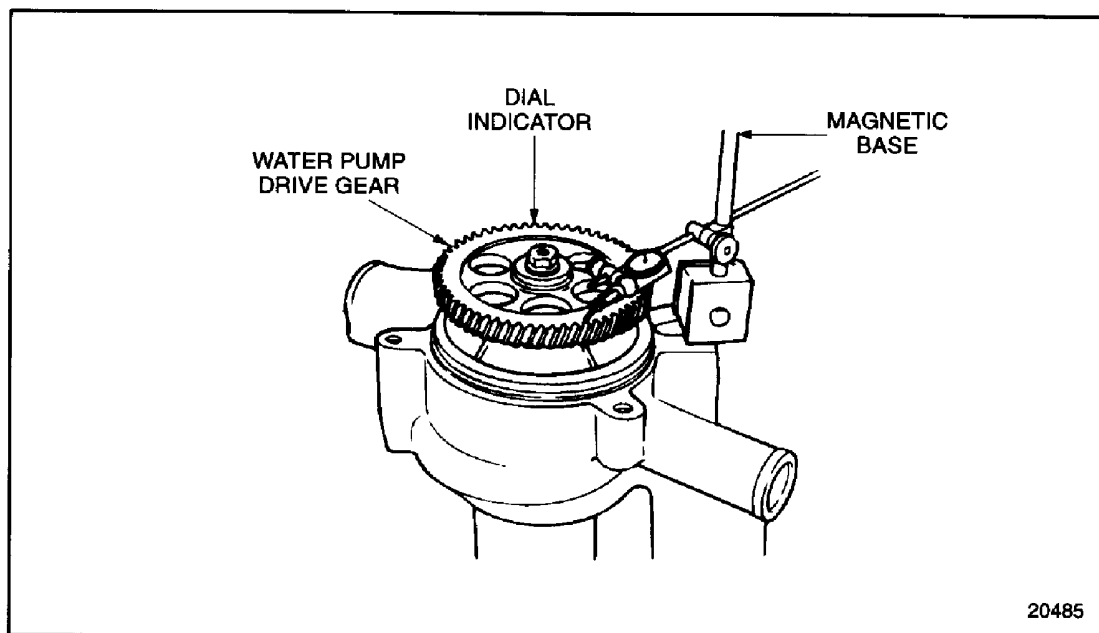

Figure 4-30 Measuring Water Pump Drive Gear Runout (GCM)
4. Using a dial indicator with magnetic base, measure the total runout of the water pump drive gear at four places, at 90° intervals. Maximum allowable runout is 0.0635 mm (0.0025 in.). See Figure 4-30.